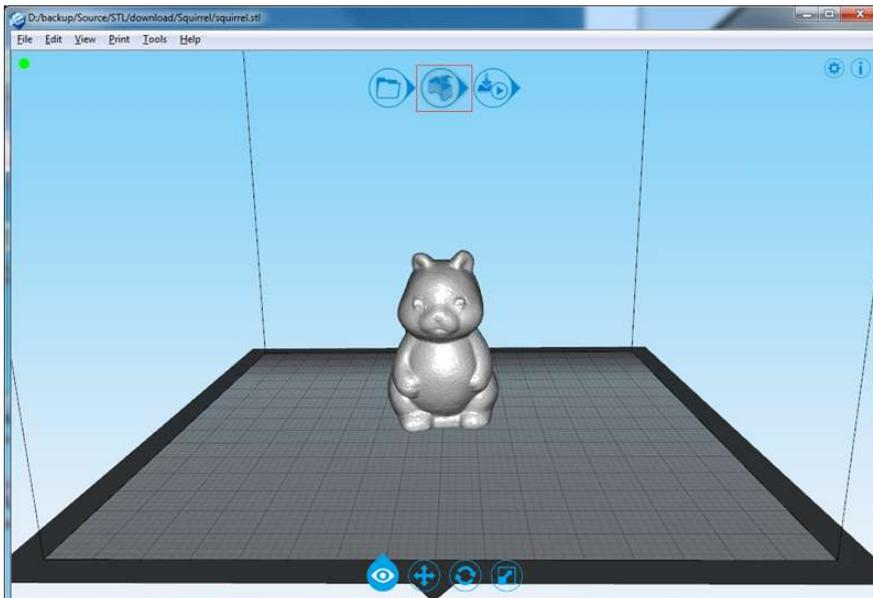
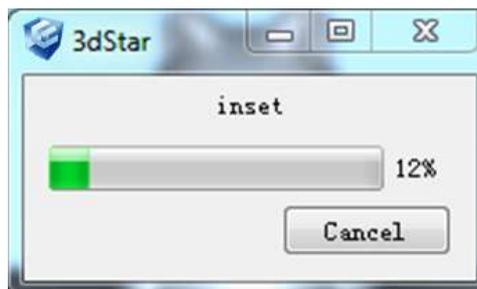
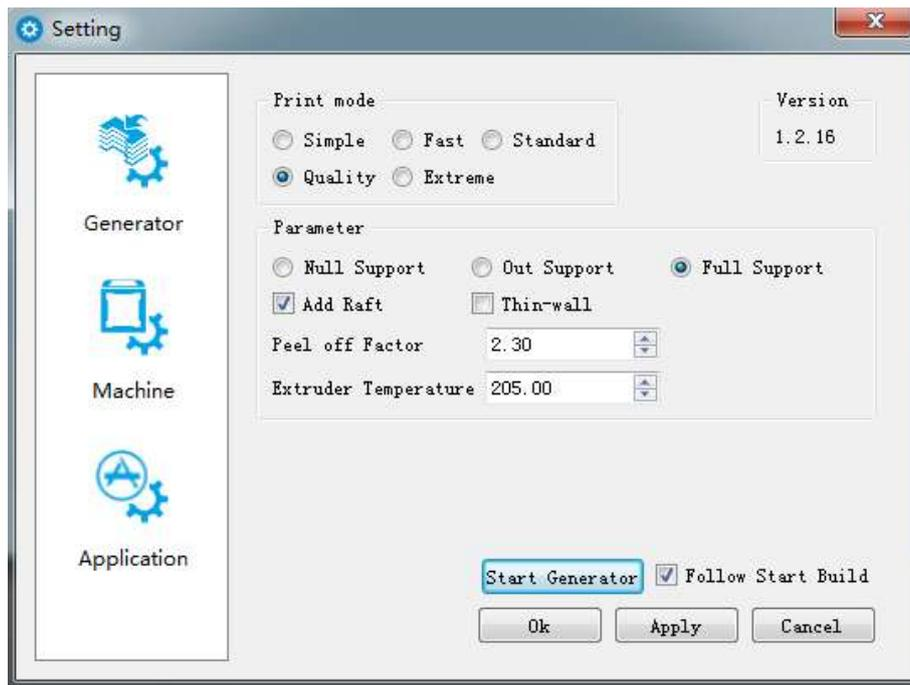

Figure 4.6
Figure 4.7
Figure 4.8
8. Make generating path, see figure 4.6 and figure 4.7. You can change the parameter by clicking “”, see figure 4.8.